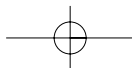

Fig. 1
1. Use a screwdriver to open the lock (fig. 1), and remove the frame